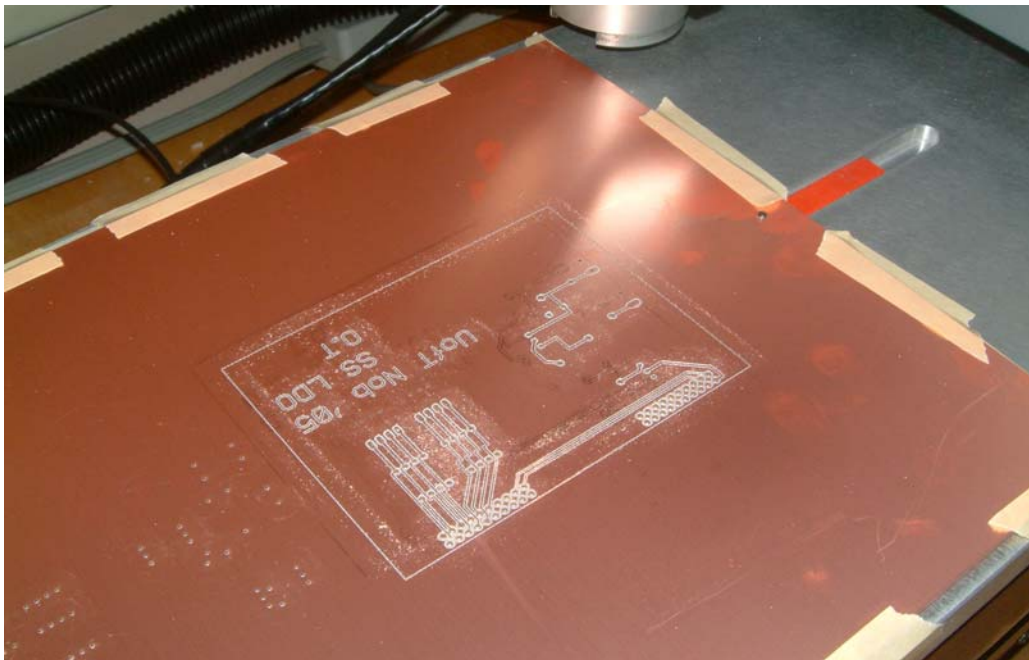

Figure 38: The bottom layer has been milled. Inspect the board before proceeding to milling the bottom layer.
5. Once the process has completed, click *goto > pause* and inspect the board (see Figure 38. If the milling was not performed correctly, halt fabrication and seek assistance.